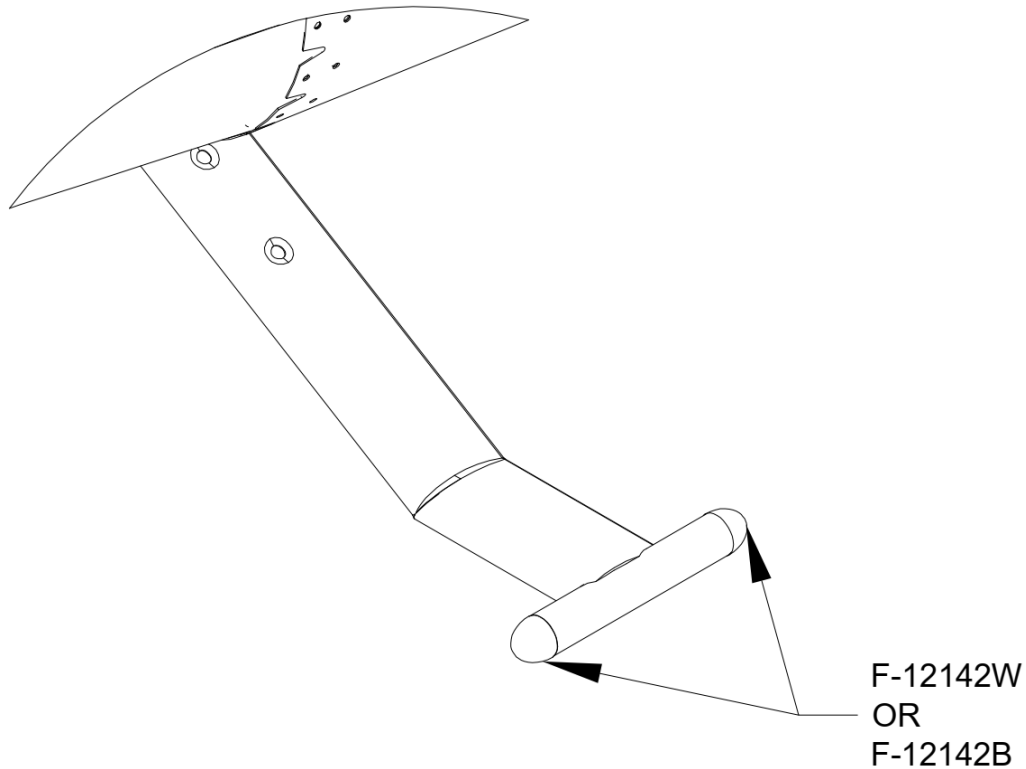

FIGURE 3: STEP PLUG INSTALLATION
Step 4: Before the adhesive cures, insert the step plugs into the ends of each step as shown in Figure 3. Plugs may be tapped into place with a hammer and wood block if necessary.